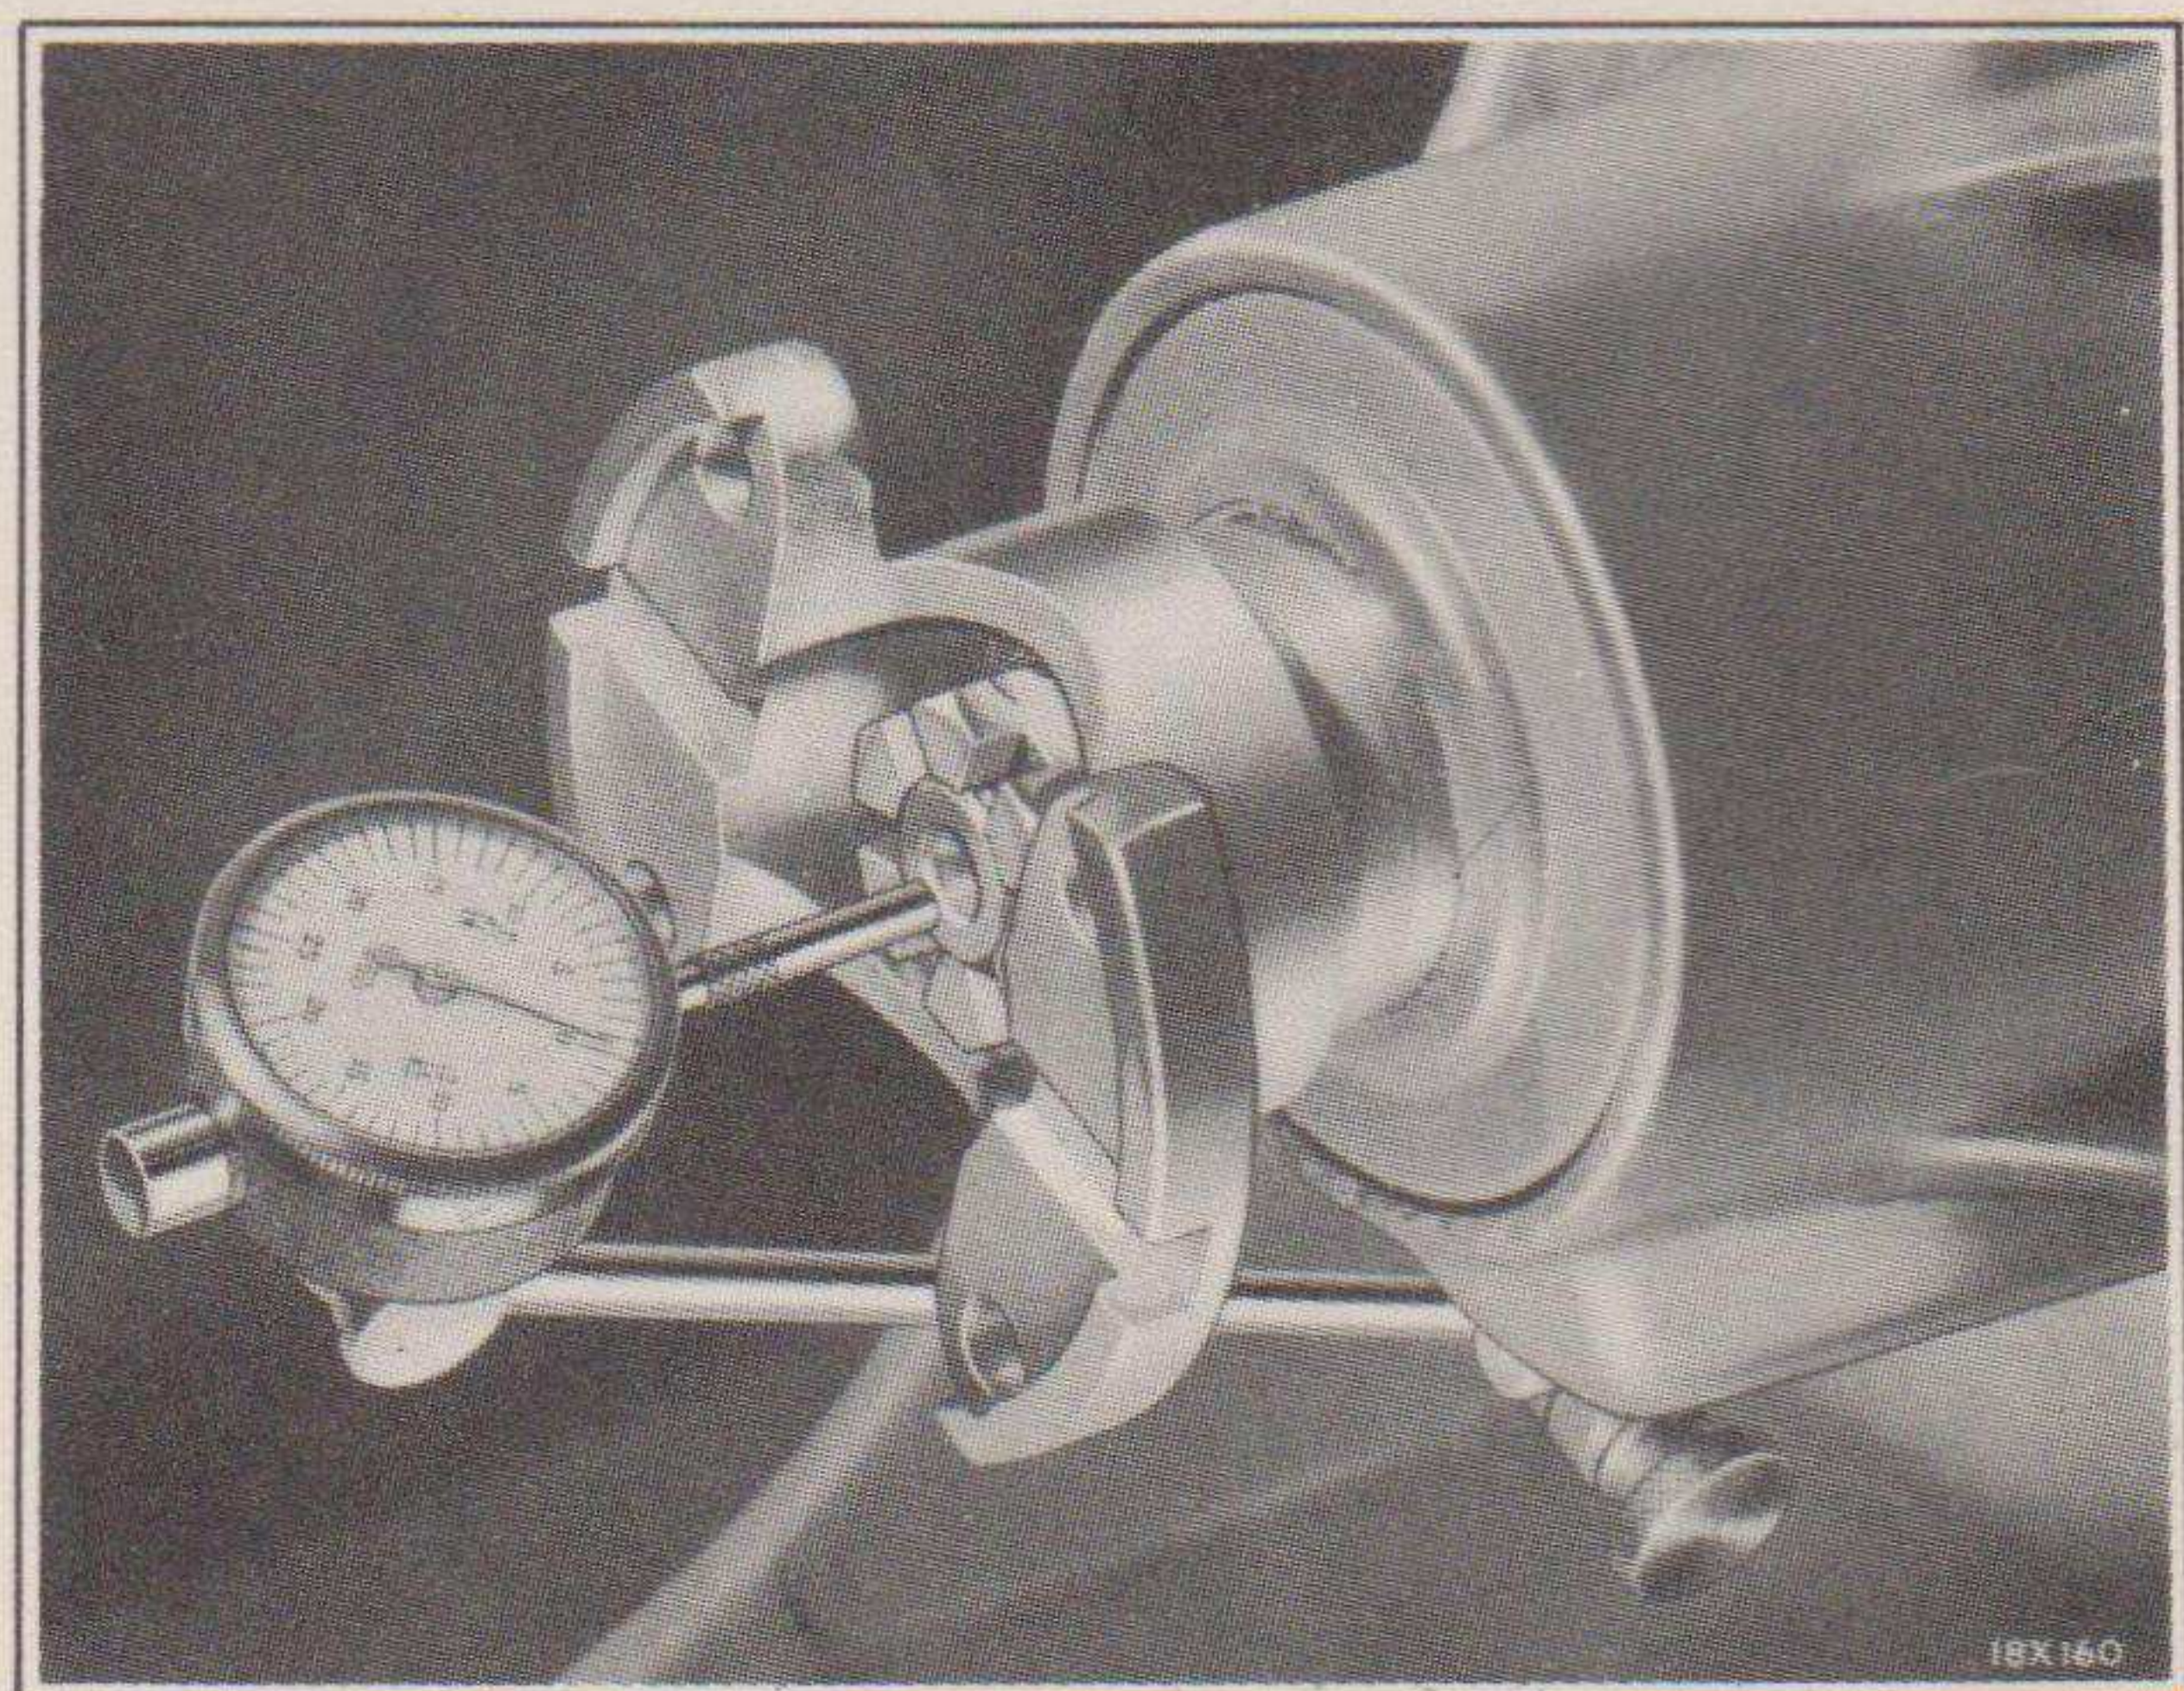

Fig. 64—Checking End-Play of Drive Pinion with Indicator (Tool C-430)
- (a) Place dial indicator (C-430) on the end of the drive pinion shaft and differential carrier as shown in Fig. 64.